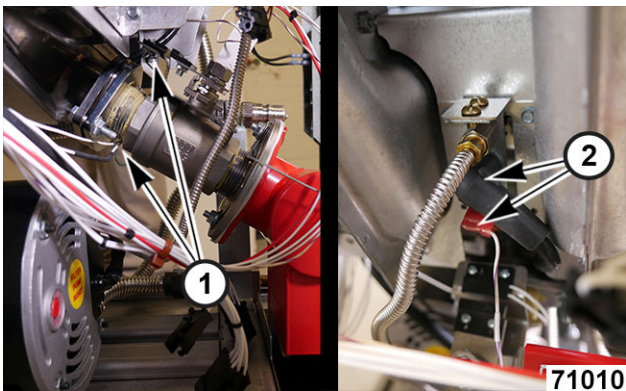

Fig. 129
40. Reconnect wiring harness to pilot assembly (2, Fig. 129).
41. Route / reconnect wiring harness to drain valve interlock switch (D.V.I) (1, Fig. 129).